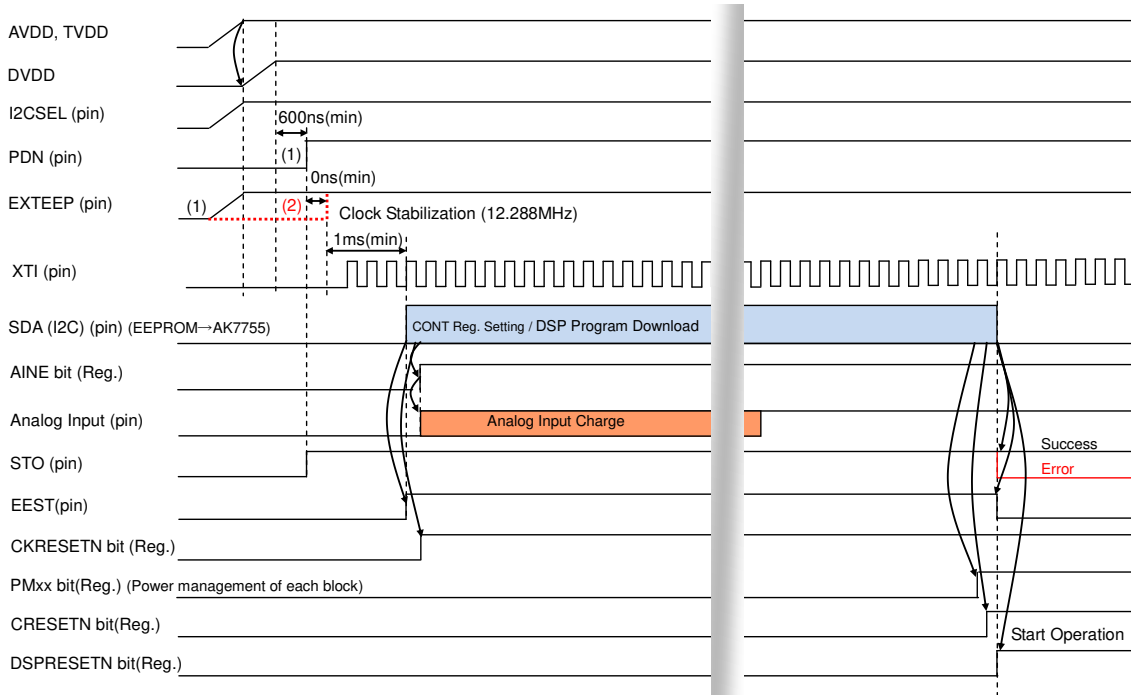
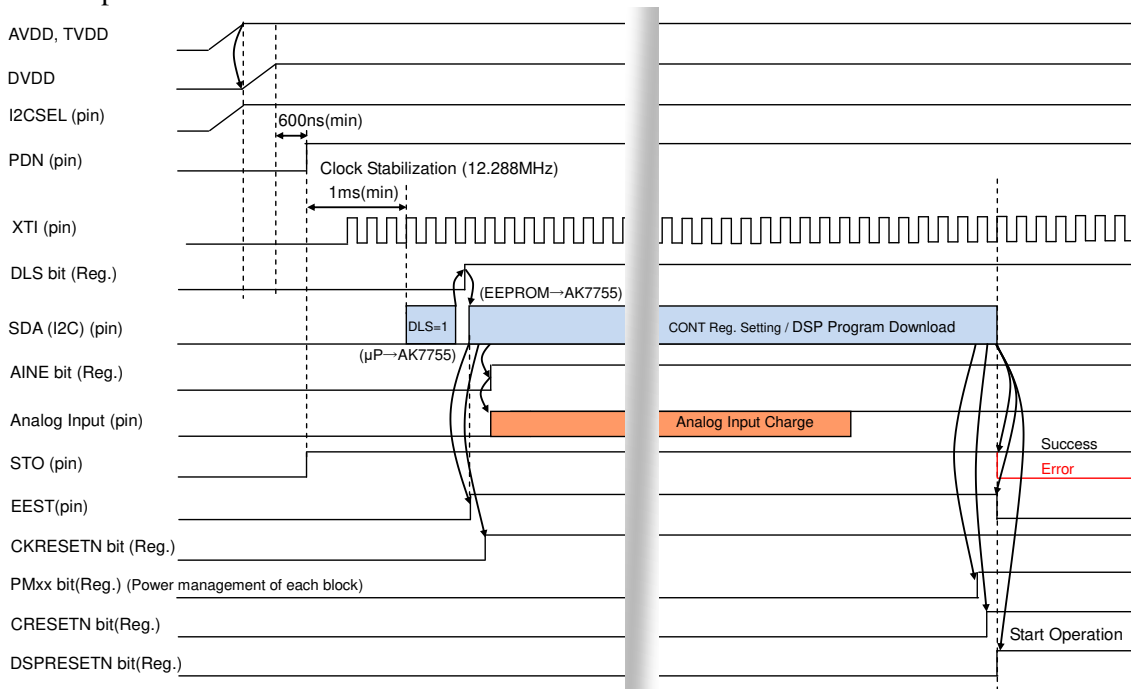

Figure 26. Power-up Sequence 3
Figure 27. Power-up Sequence 4
When downloading programs from an EEPROM, I2C interface (I2CSEL pin = “H”) and a 12.288MHz clock input to the XTI pin are necessary, or a 12.288MHz crystal oscillator must be connected to the XTI and XTO pins. In this case, only CKM mode 0 and 2 (CONT00: D6-D4) are available. The AK7755 should be powered up when the PDN pin = “L”. AVDD and TVDD must be powered up first before DVDD when DVDD is supplied externally (LDOE pin = “L”). In this case, the power-up sequence between AVDD and TVDD is not critical. Set the PDN pin to “H” to start the power supply circuits for REF (analog reference voltage source) generator and internal digital circuit (only when the LDOE pin = “H”) after all power supplies are fed. There are three ways to start downloading control register settings, DSP programs and Coefficient RAM: by PDN pin (1) (Figure 26), by EXTEEP pin (2) (Figure 26) and by DLS bit (3) (Figure 27).